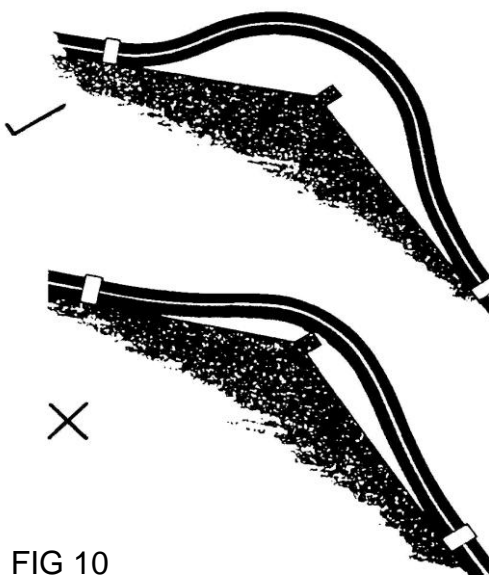

FIG 10
- b Always give plenty of clearance around sharp edges (see Fig 10).